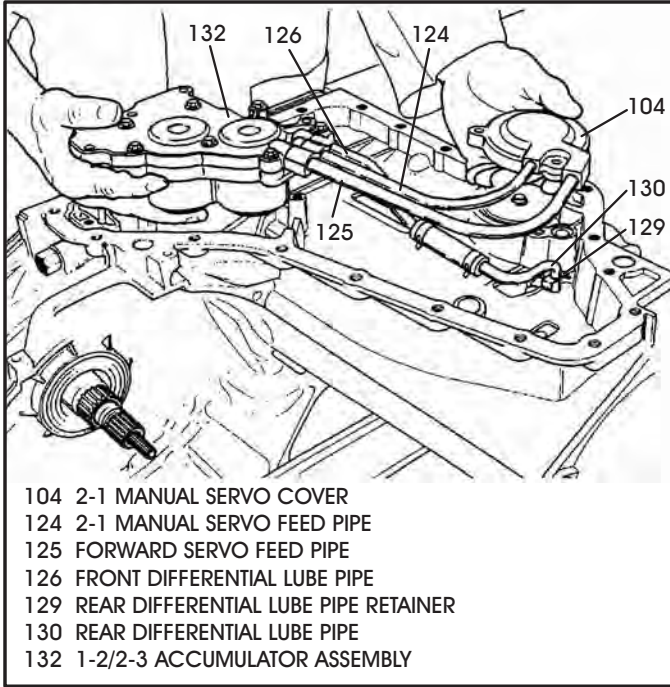

Figure 215
4. Assemble lube pipes, 2-1 manual servo cover and the preassembled 1-2/2-3 accumulator assembly, as shown in Figure 215, and install on transaxle case.